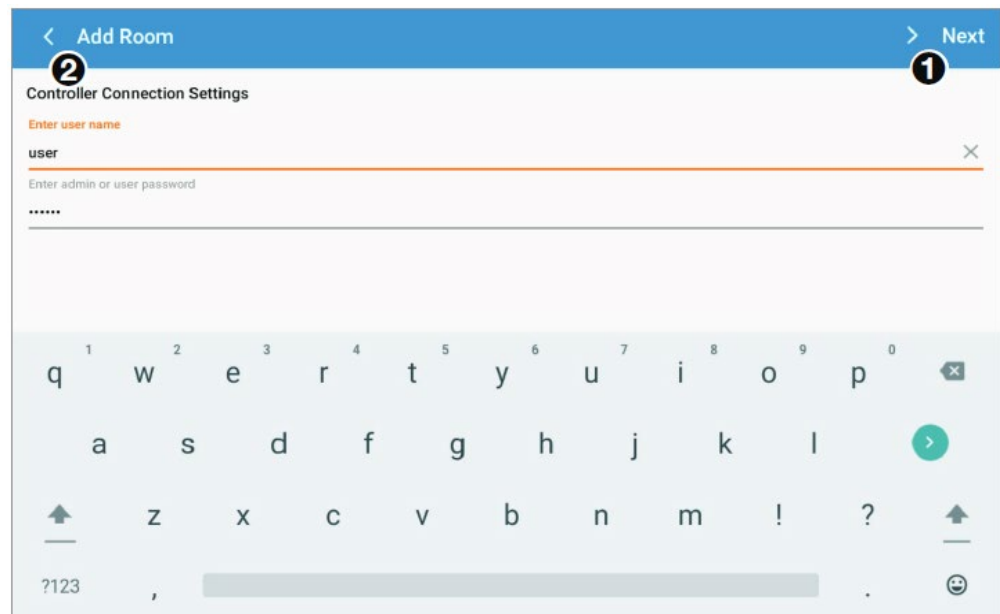
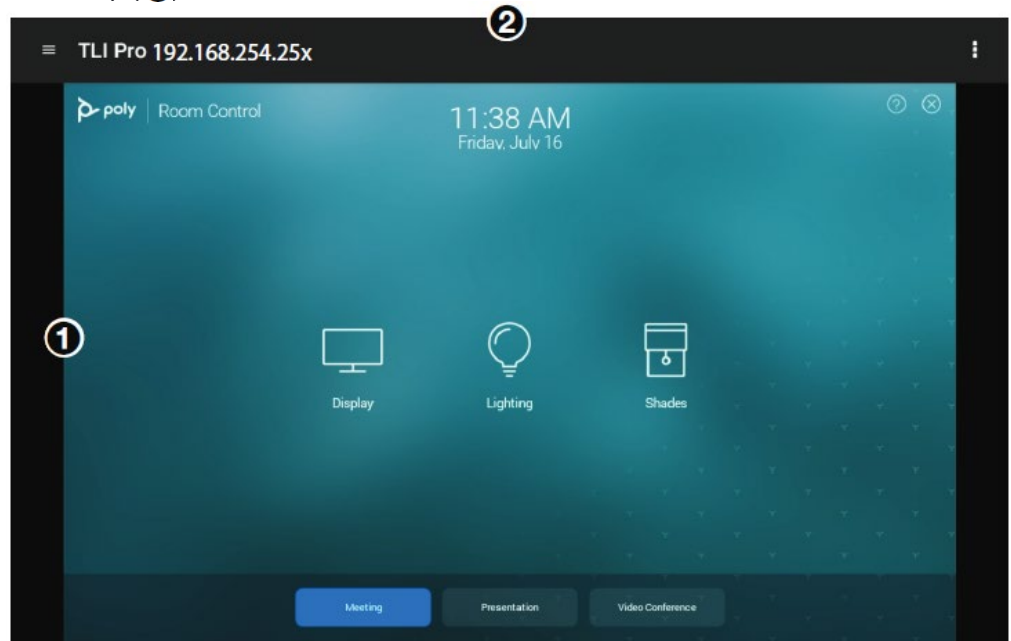

Figure 13. Entering Username and Password
Figure 14. Default Room Control Page
5. Tap **Next** (see figure 14, ❶). The app verifies that the credentials are valid. If they are not, an error message appears. Check the credentials and reenter them if required.
9. Tap the back arrow (figure 13, ②, on page 9) to return to the user interface. The default Room Control page appears (see figure 14, ①) with the Room Manager bar on the top (②).